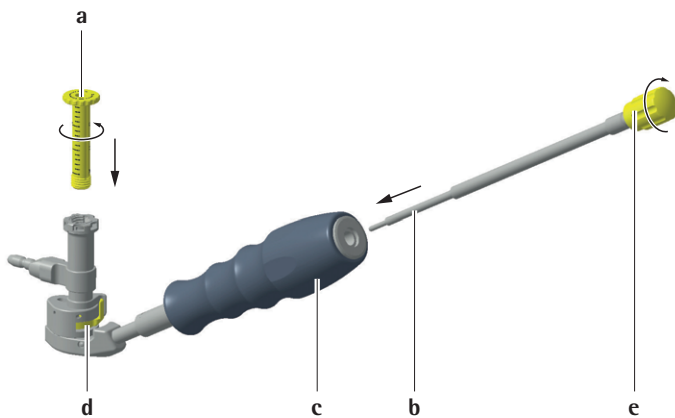

Fig. 69
- ▶ Insert the depth stop **a** and turn it counter-clockwise, see Fig. 69.